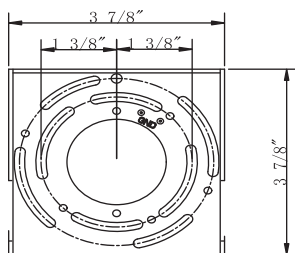

Fig.3
3. Loosen the mounting screw (B) and rubber gasket (C) from the fixture, and remove the mounting plate.
4. Set color temperature at this stage. The fixture can switch between four color temperatures (2700K, 3000K, 3500K, 4000K), which can be adjusted to your preference using the 4CCT switch (Fig. 3) mounted in the canopy.